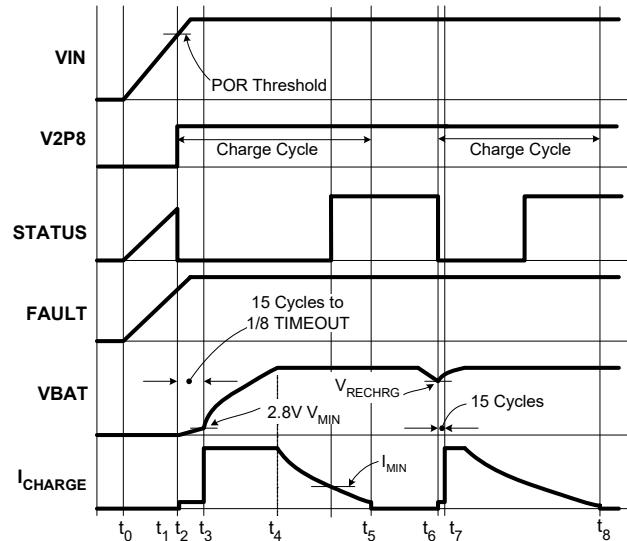

FIGURE 21. OPERATION WAVEFORMS
Figure 21 illustrates the typical signal waveforms for the linear charger from the power-up to a recharge cycle. More detailed Applications Information is given in the following.
The two indication pins, STATUS and FAULT, indicate a LOW and a HIGH logic signal respectively. Figure 21 illustrates the start-up of the charger between t_0 to t_2 .
A charge cycle consists of three charge modes: trickle mode, constant current (CC) mode, and constant voltage (CV) mode. The charge cycle always starts with the trickle mode until the battery voltage stays above V_{MIN} (2.8V typical) for 15 consecutive cycles of the internal oscillator. If the battery voltage drops below V_{MIN} during the 15 cycles, the 15-cycle counter is reset and the charger stays in the trickle mode. The charger moves to the CC mode after verifying the battery voltage. As the battery-pack terminal voltage rises to the final charge voltage V_{CH} , the CV mode begins. The terminal voltage is regulated at the constant V_{CH} in the CV mode and the charge current is expected to decline. After the charge current drops below I_{MIN} (programmable for the 4x4 and 5x5 package and programmed to 1/10 of I_{REF} for the 3x3 package; see "End-of-Charge (EOC) Current" on page 14 for more detail), the ISL6292 indicates the end-of-charge (EOC) with the STATUS pin. The charging actually does not terminate until the internal timer completes its length of TIMEOUT in order to bring the battery to its full capacity. Signals in a charge cycle are illustrated in Figure 21 between points t_2 to t_5 .
After a charge cycle completes, charging is prohibited until the battery voltage drops to a recharge threshold, V_{RECHRG} (see "Electrical Specifications" on page 6). Then a new charge cycle starts at point t_6 and ends at point t_8 , as shown in Figure 21. The safety timer is reset at t_6 .
The trickle mode charge has a time limit of 1/8 TIMEOUT. If the battery voltage does not reach V_{MIN} within this limit, a TIMEOUT fault is issued and the charger latches up. The charger stays in trickle mode for at least 15 cycles of the internal oscillator and, at most, 1/8 of TIMEOUT, as shown in Figure 21.
The end-of-charge current I_{MIN} sets the level at which the charger starts to indicate the end of the charge with the STATUS pin, as shown in Figure 21. The charger actually does not terminate charging until the end of the TIMEOUT, as described in "Total Charge Time" on page 13. The I_{MIN} is set in two ways, by connecting a resistor between the IMIN pin and ground, or by connecting the IMIN pin to the V2P8 pin. When programming with the resistor, the I_{MIN} is set in Equation 6.